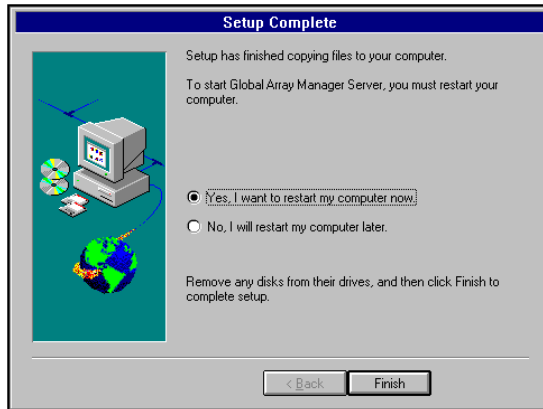

Figure 3-6. After Installation...
11. After a successful installation, the Setup Complete dialog box of the installation program is displayed (Figure 3-6).